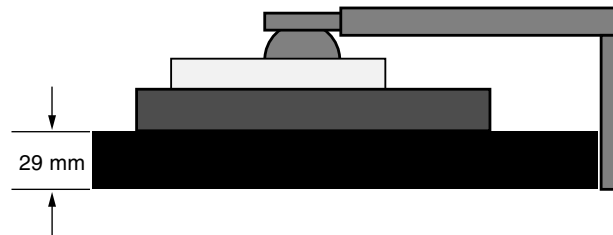

Figure S.1
3. Place monitor face down on a non-abrasive surface. (Place the screen on a 29 mm platform so that the stand is parallel with the surface) (**Figure S.1**).